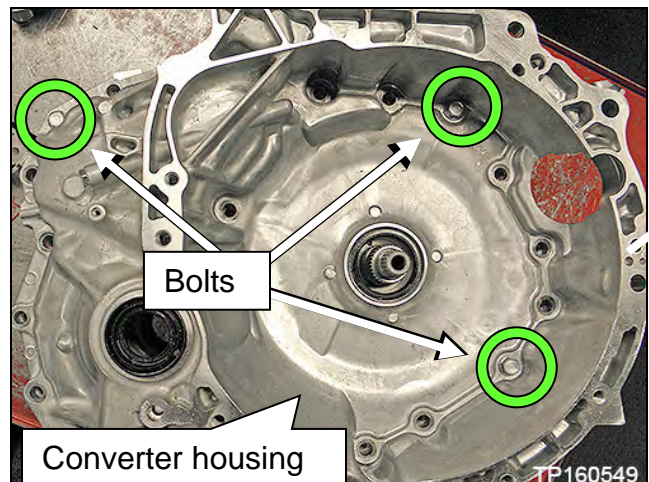

Figure 2F
2. Temporarily install the converter housing onto the CVT case with three bolts finger tight (Figure 2F).